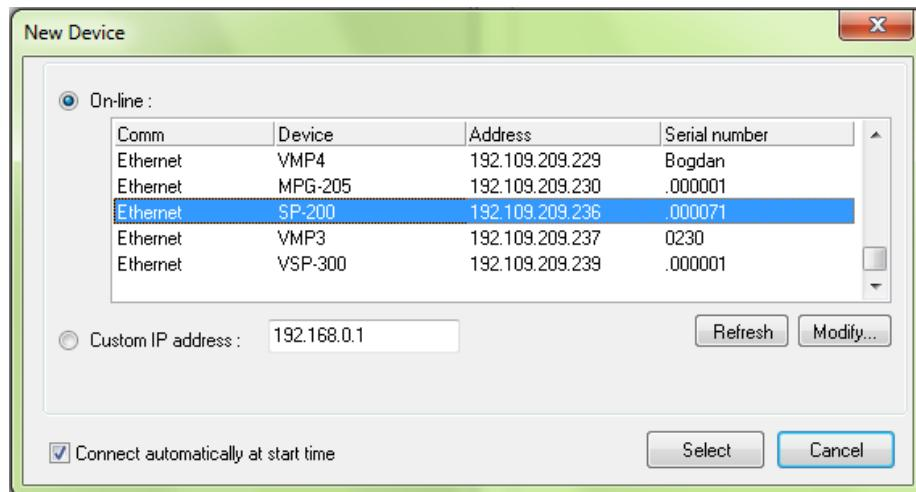

Fig. 30: “**New Device**” window to select and add an instrument to the current devices.
- 3) The window shown in Fig. 30 appears. Click on “**Refresh**” to see the instruments present on your network.